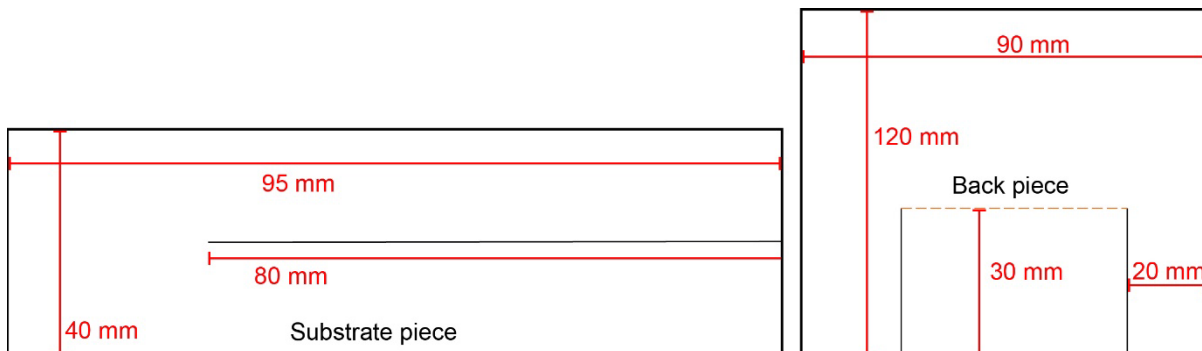

Figure 8.—Slitting locations for substrate and back pieces.
- (1) Substrate piece (95 by 40 mm with 80-mm slit in the middle on one side) (see Figure 8)
- (1) Back piece (120 by 90 mm with two slits, each 20 mm from the 90-mm side and 30 mm deep (Figure 8)